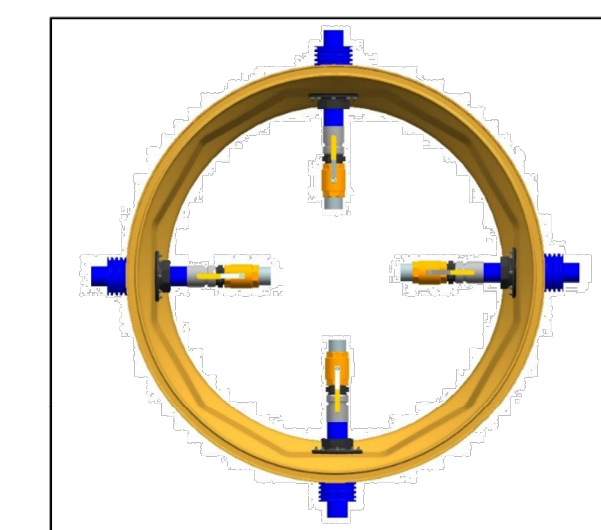

Figure 6
b) Immediately after cleaning install the tank sump onto the tank collar. Prior to attaching the sump to the collar, dry fit it onto the collar and position so that the sump flanges align perpendicular with the pipework exit / entry points. See Figure 6.